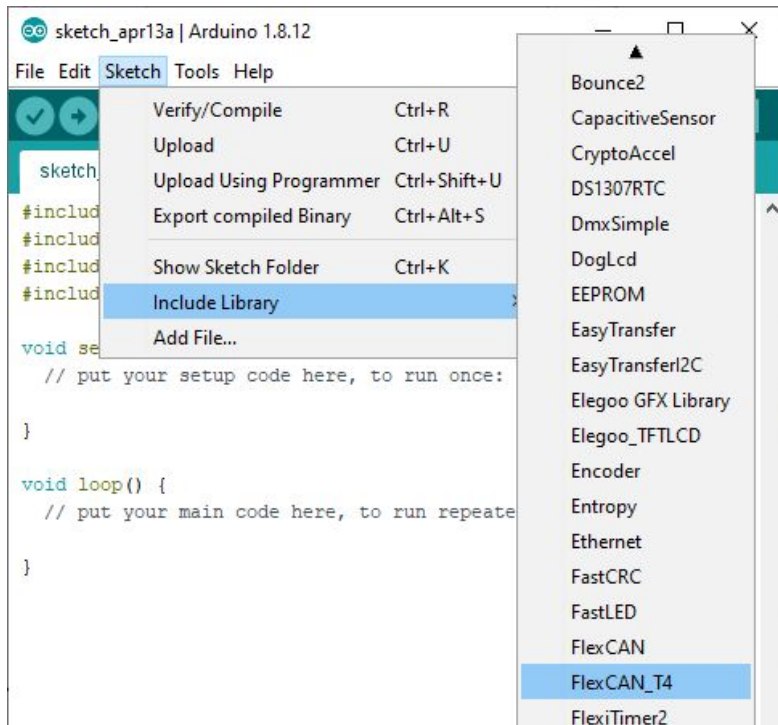

Fig. 8. Selecting the FlexCAN_T4 library to be included.
2. Find and left click “FlexCAN_T4 (Fig. 8)”: